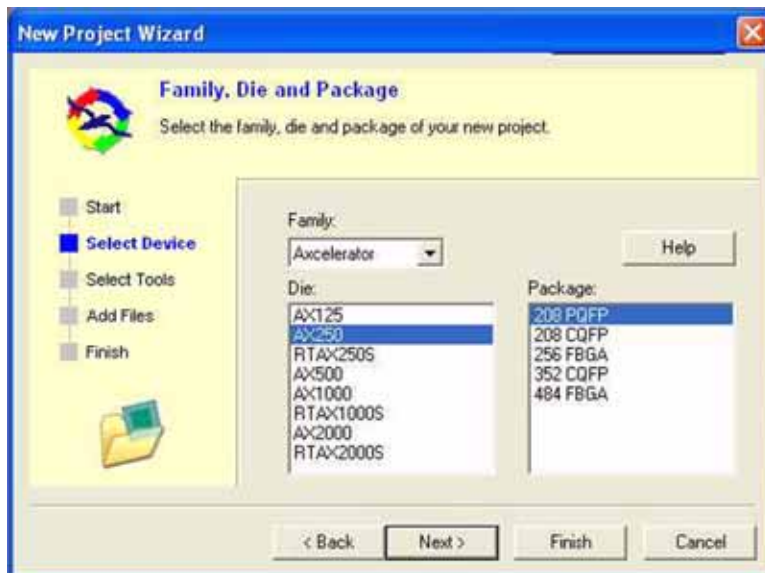

Figure 3-2. Family, Die, and Package
8. Select the *Axcelerator* family, *AX250* die, and *208PQFP* package. See Figure 3-2.